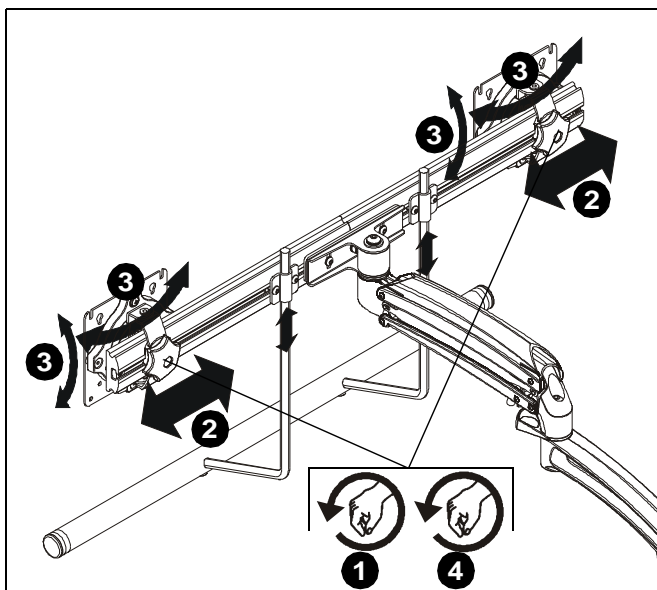

Figure 12
1. Loosen knobs securing faceplates to array. (See Figure 12)
2. Slide displays laterally on array to adjust lateral shift. (See Figure 12)
3. Adjust pitch and pivot position as desired. (See Figure 12)
4. Tighten knobs to secure faceplates in position. (See Figure 12)